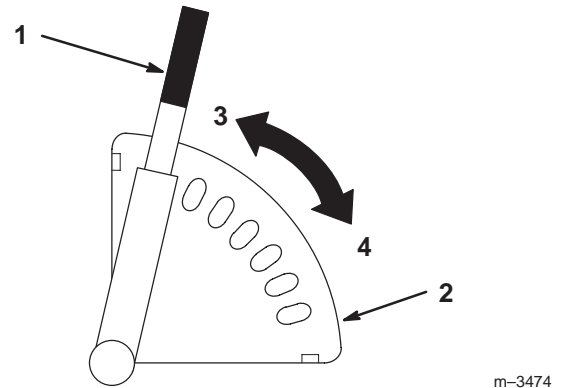

Figure 16
4. Adjust the height of cut to the desired level, release the lever inward to lock into the quadrant (Fig. 16).